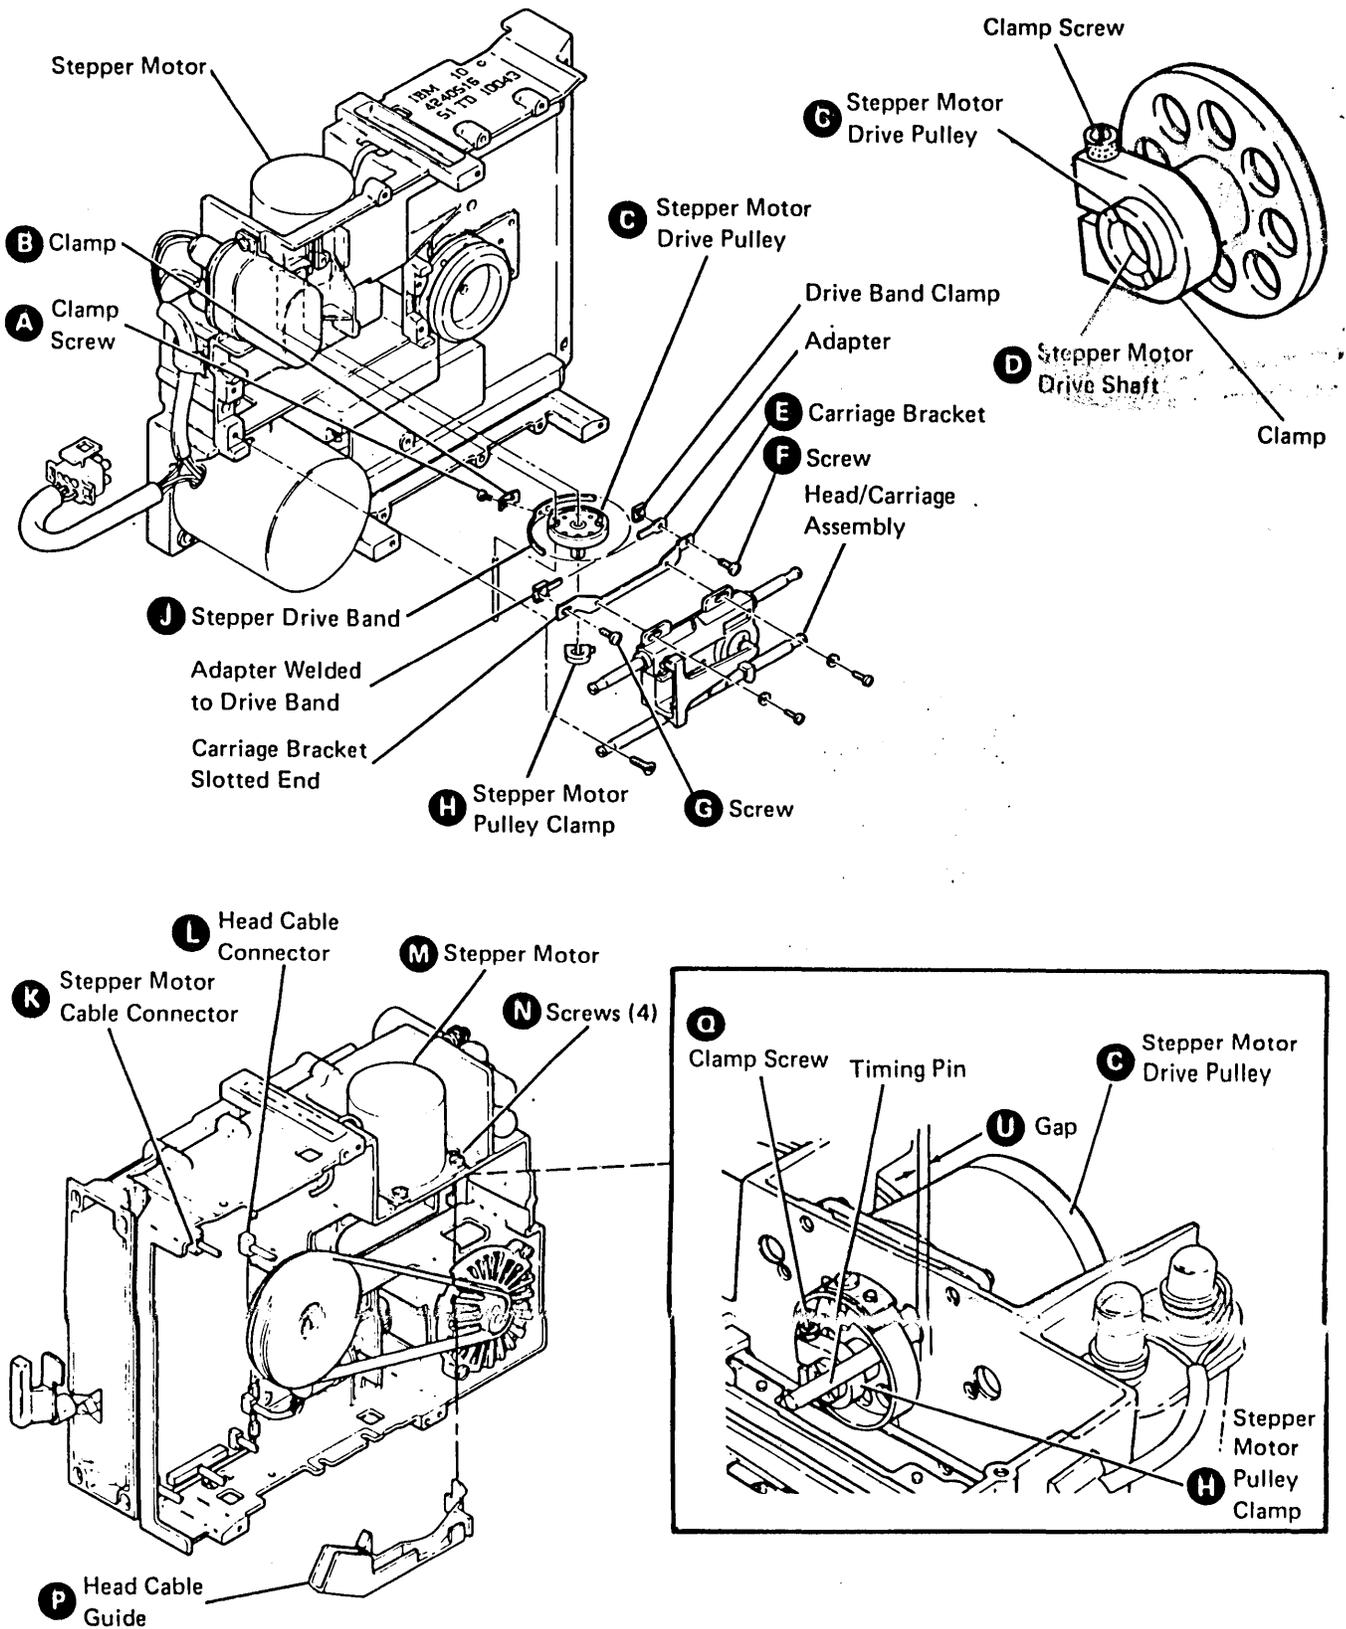

Figure F-32. Stepper Motor Removal and Replacement
F.3.5.1 Stepper Motor Removal (Figure F-32)
F.3.5.2 Stepper Motor Replacement (Figure F-32)